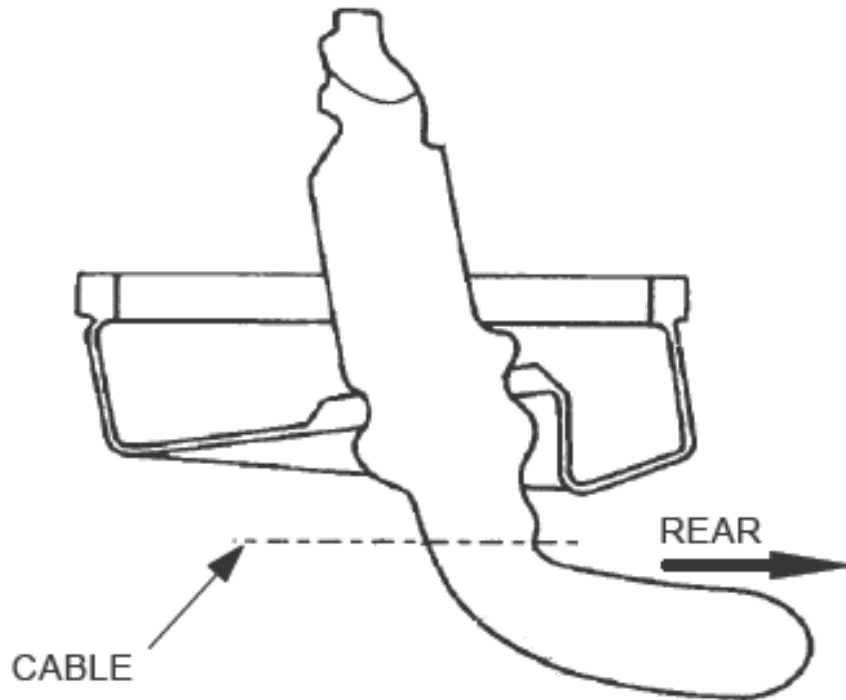

Figure 8 Draw Link and Dust Boot – Installation
55. **Assembly and Installation.** Referring to Figures 8 to 11, assemble the park brake as follows:
- a. Slide the draw link into the dust boot until the dust boot lip is located in the correct notches, as shown in Figure 8.